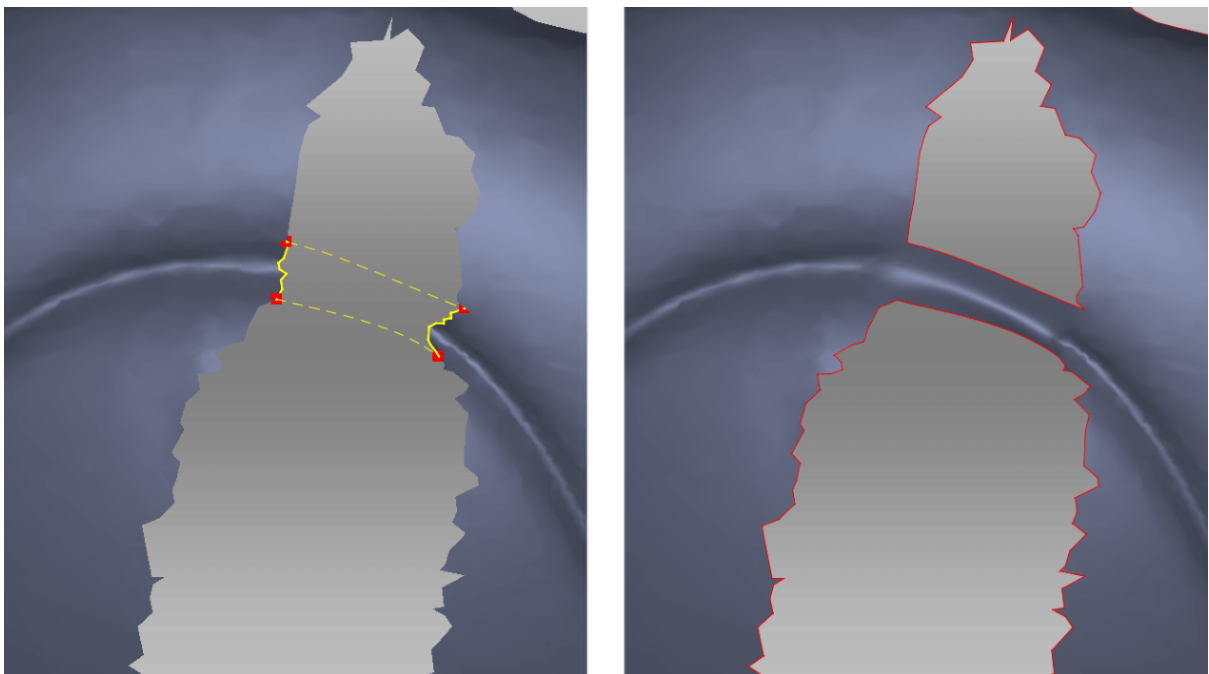

Figure 103: Specifying fragments. Correct fragments can resolve original geometry.
2. Specify two opposite fragments³ between which a bridge will go (Figure 103). There are two ways to do this:
Preserve the original geometry (Figure 103)	Clear the Smooth edges first checkbox